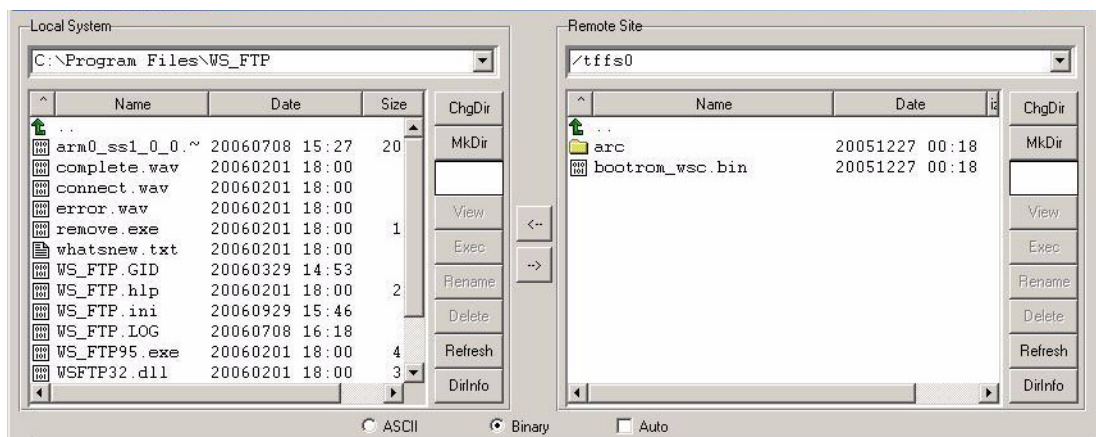

Figure 5-11 Ftp page - WSC upgrade
4. Go to the “bootrom” folder and copy “bootrom_wsc.bin” file to the “/tffs0” of the WSC Card. Figure 5-11 shows the ftp screen, once the transfer is done.